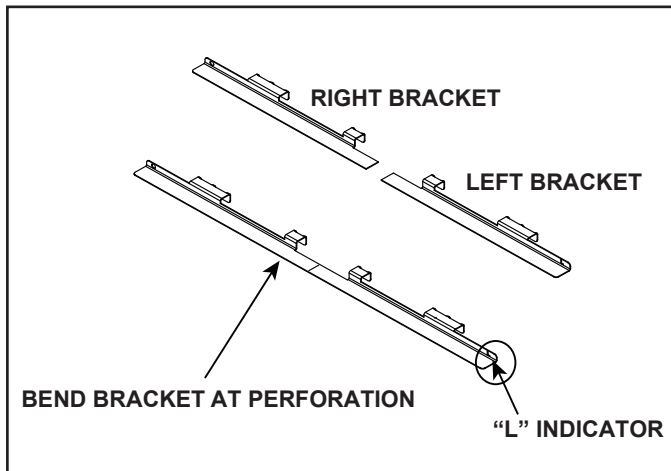

Figure 11.2 Separate Fan Bracket into Left and Right Brackets
1. Locate the fan brackets that are enclosed in the manual bag assembly. Separate into left and right brackets by bending the bracket at the perforation until it breaks and the pieces are separated. See Figure 11.2.